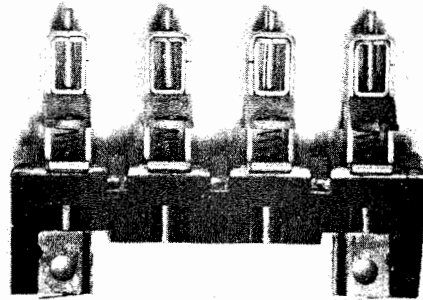

Figure 3. Contact Assembly Modified
5. Install the spring loaded contact removed in step 4 on the contact assembly removed in step 2. The contact assembly should appear as shown in figure 3.